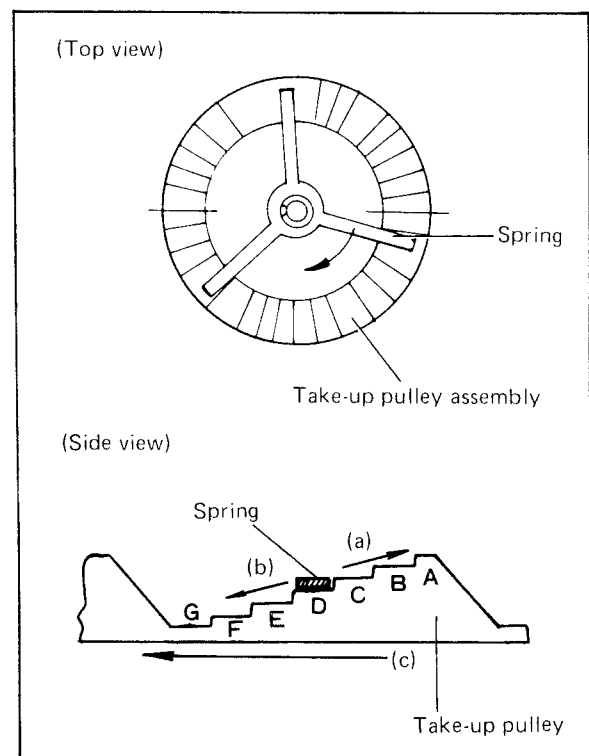

Fig. 5-11 Take-up pulley assembly
1. If the take-up torque is less than proper torque, adjust the position of spring of the take-up pulley assembly to direction of arrow (a) as shown in Fig. 5-11, then measure the take-up torque again.
2. If the take-up torque is greater than proper torque, set the spring of take-up pulley assembly to arrow (b) as shown in Fig. 5-11, then measure the take-up torque again.
1. Set the spring to center (D) of steps as shown in Fig. 5-11.